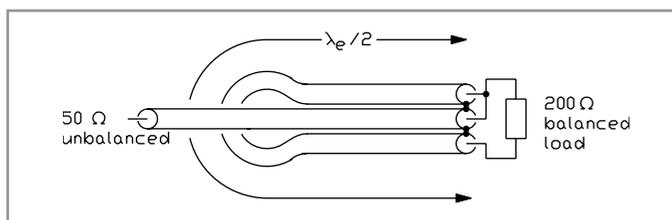

Fig. 7.15. Half-wave balun, which also transforms 50Ω unbalanced to 200Ω balanced. The loop is an electrical half-wavelength long
The most successful VHF/UHF balun is the half-wave coax loop transformer which converts 200Ω symmetrical to 50Ω unsymmetrical (Fig. 7.15). This method is state-of-the-art and to be preferred to most others, because the close coupling between
Fig. 7.16. Three methods of matching a driven-element to 200Ω balanced, for use with a half-wave balun (Fig. 7.15). If the driven element impedance would be 50Ω, a simple folded dipole (A) can be used. The Delta-match (B) and T-match (C) are adjustable